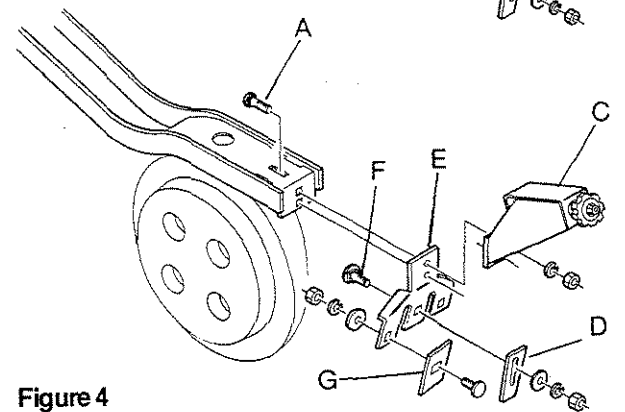

Figure 4
3. Reattach inside scraper (D) onto new outside scraper mount (E) with $\frac{3}{8}$ " x 1" long carriage bolt (F), washers and hex nut (see figure 4).
4. Reposition new scraper assembly behind press wheel knob adjust bracket (C) and attach to opener-frame with $\frac{3}{8}$ " x $1\frac{1}{4}$ " long carriage bolt (A), washers and hex nuts.